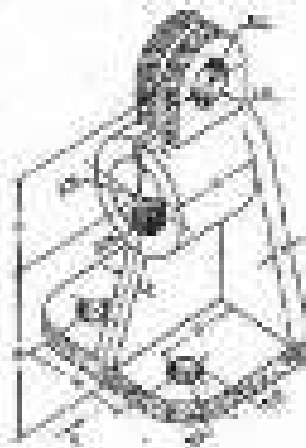

Fig. 4b
- b) Design and draw a neat dimensional sketch in three views with one sectional view of a milling fixture for milling  $3 \pm 0.05$  mm wide slot at the component as shown in fig. 4b. Show the details of location, clamping and cutter setting. Assume this as a final operation. [26]